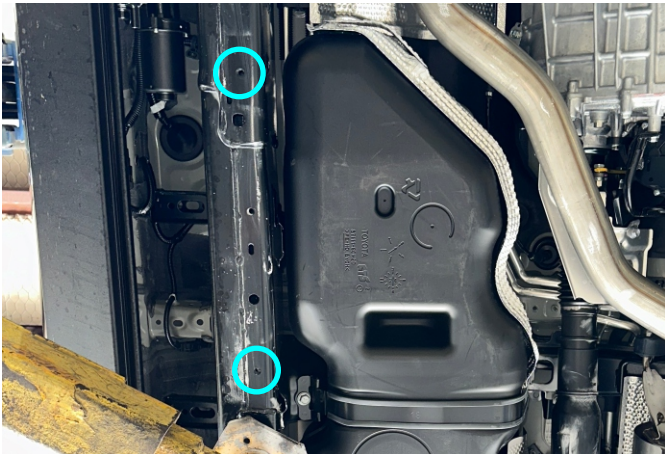

Fig. 6
3. Loosely install supplied M8x25 bolts with M8 washers (items A, B) into the factory threaded holes as shown in fig. 6.